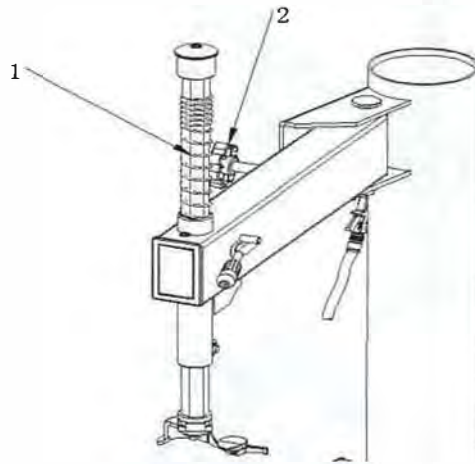

Fig 4-4
Cover the vertical shaft spring (1) on the vertical shaft. Mount the screw detached from the vertical shaft cap and use the hand wheel to screw into the nut bushing of the rocker arm as shown in Fig 4-4.